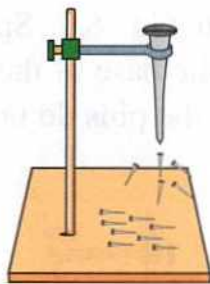

Fig. 6.11 On removal of the magnet, pins fall down
- (iii) Then remove the magnet A as shown in Fig 6.11. You will see that all the pins fall down. This shows that on removing the magnet A, the nail loses its magnetic property.